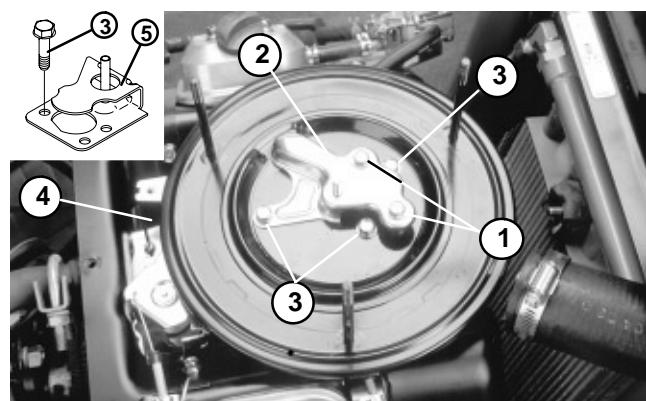

Figure 15
- Remove two cap screws and three hex head flange screws securing air cleaner base to the carburetor. Remove base carefully from carburetor. Make sure not to damage carburetor gasket. Cover carburetor to prevent dirt and debris from entering (Fig. 15).
- Remove any covering protecting the carburetor inlet. Install air cleaner base carefully to carburetor. **Make sure not to damage carburetor gasket while installing base** (Fig. 15).
- Secure air cleaner base and carburetor shield to the carburetor with two cap screws and three hex head flange screws (Fig. 15).